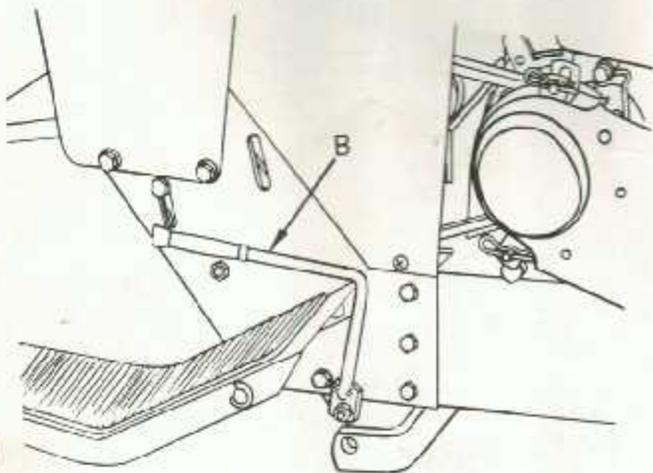

FIG. 11
- b. A second safety feature of your Tractor is that the mower blade clutch handle assembly (B, Fig. 11), must be in the "out" position before Tractor will start.
NOTE: If blade clutch handle assembly (B, Fig. 11), interferes with attachment to be used, remove handle. CAUTION: First move handle to "out" position, then remove nut and handle. Save for use with mower.